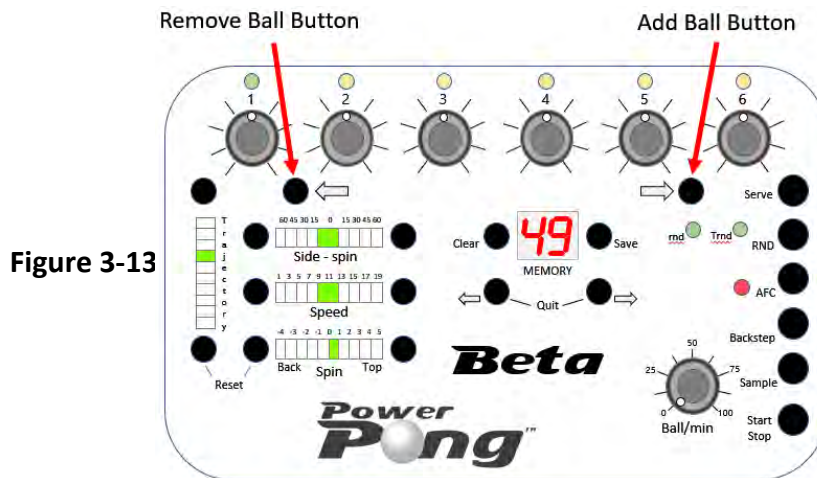

Figure 3-13
3.5.1 Add Ball Button (Figure 3-13)
3.5.2 Remove Ball Button (Figure 3-13)